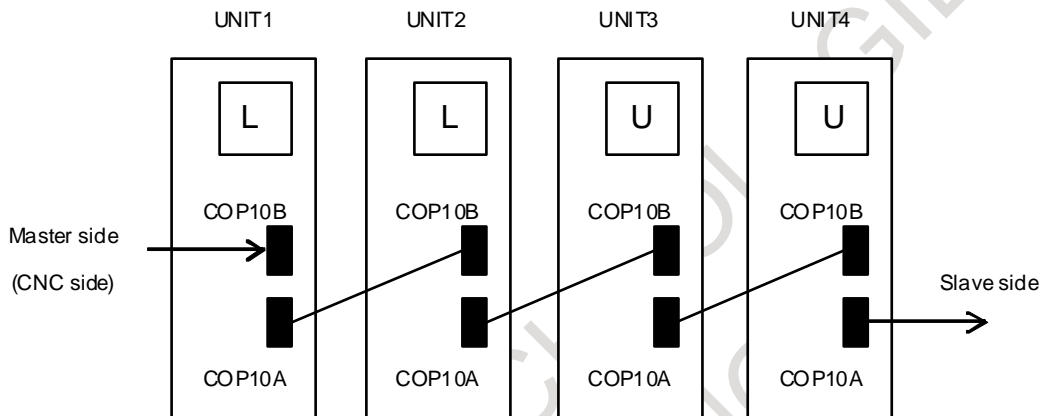

Fig. 3.2.10
- (2) Cause and troubleshooting
- (a) Replace the optical cable (COP10B) of the servo amplifier that is nearest the CNC on which "U" is displayed. (In Fig. 3.2.10, the cable between UNIT2 and UNIT3)
- (b) Replace the servo amplifier that is nearest the CNC on which "U" is displayed. (In Fig. 3.2.10, UNIT3)
- (c) Replace the COP10B-side servo amplifier of the servo amplifier that is nearest the CNC on which "U" is displayed. (In Fig. 3.2.10, UNIT2)